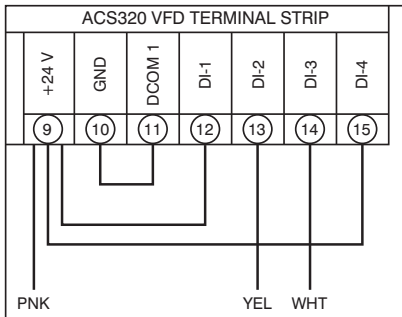

Fig. 25 — ACS320 VFD Wiring
- For ACS320 VFDs the voltage is sourced from the VFD at its terminal 9 (+24 V). 2-Speed Indoor Fan Motor speed inputs are received at terminals 13 (DI-2) for low speed (40 Hz) motor operation and 14 (DI-3) for high speed (60 Hz) motor operation. See Table 11 and Fig. 25 (on page 18).